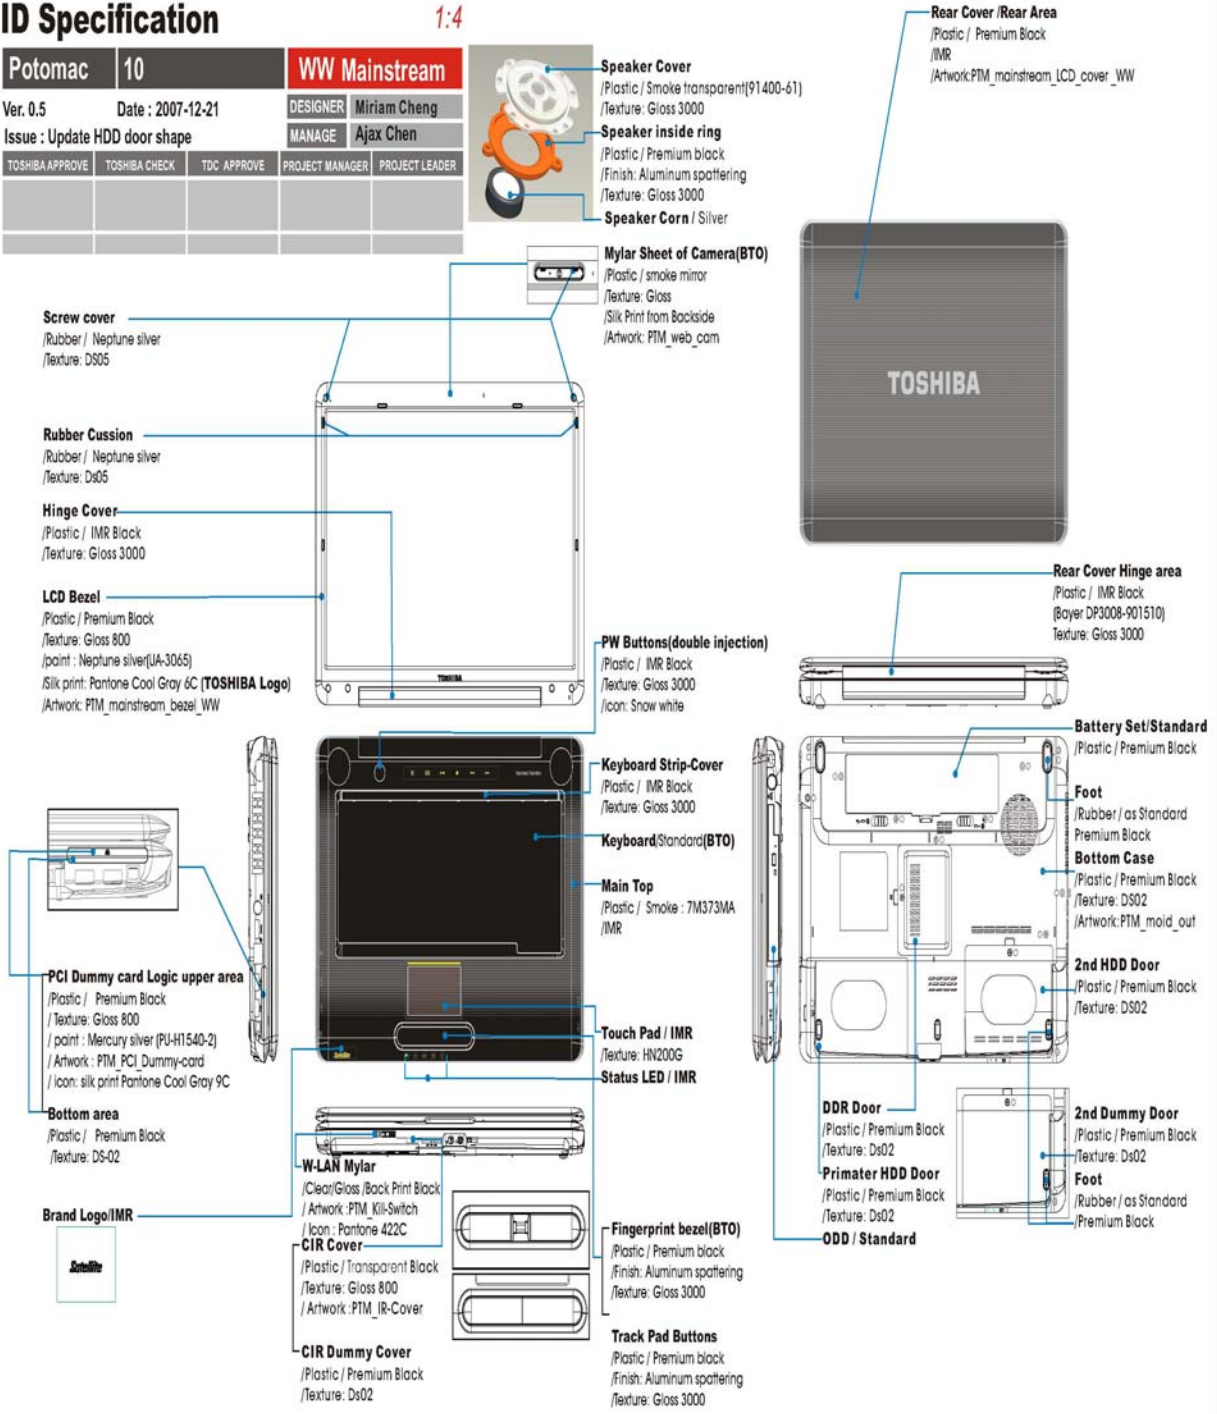

Figure 1-1 ID Parts Description Placement
□ Figures 1-1/1-2/1-3 and 1-4 show the computer and its system unit configuration, respectively.